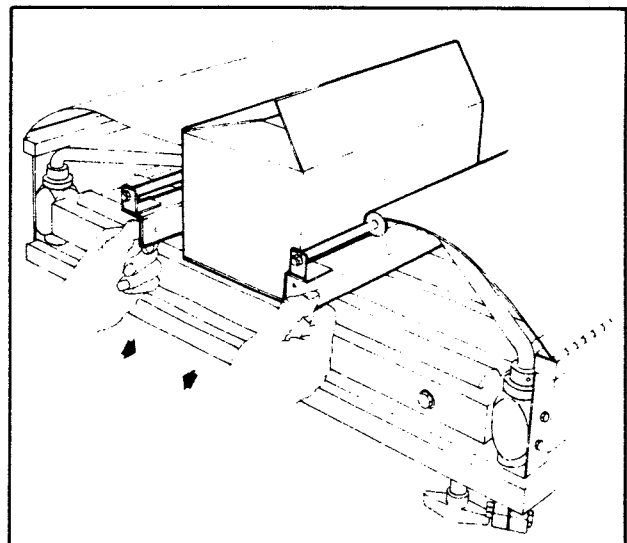

FIGURE 25 - SIDE GUIDES
- 4) Manually move the side guides to within approximately 1 inch [25 mm] of each side of the box when the box is centered on the infeed conveyor, as shown in figure 25. Do not push against box sides as some clearance is necessary for feeding boxes onto infeed conveyor.